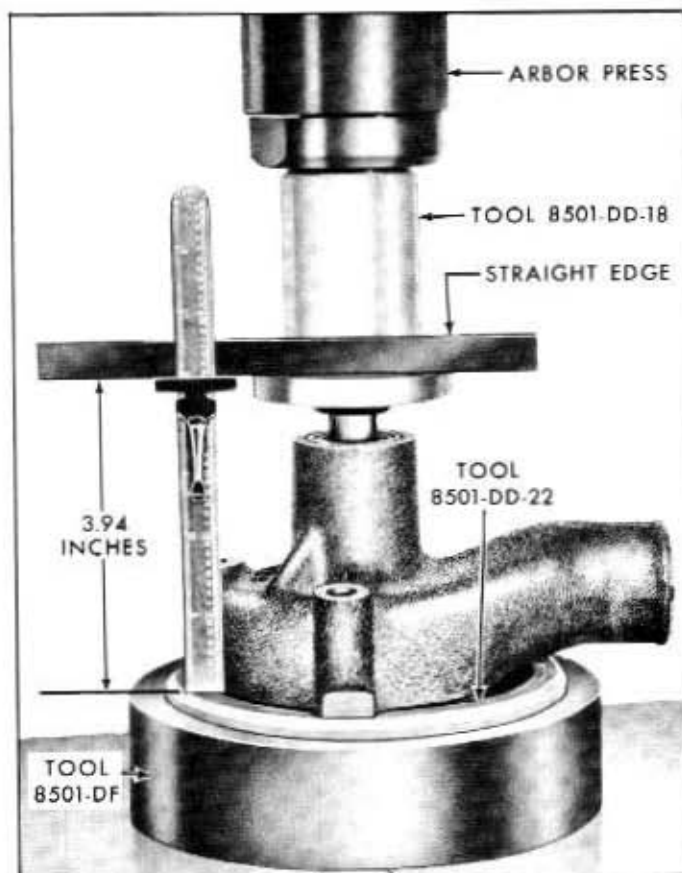

Fig. 8-11—Hub Installation—(60C-6011)
6. Adjust the set screw in the bottom of the fixture plate until the screw touches the end of the shaft. Do not lift the pump body. Position the water pump hub over the shaft. Use Tool 8501-DD-18 and press it into place, holding the specified distance from the housing mounting face to the hub front face. See figure 8-11.